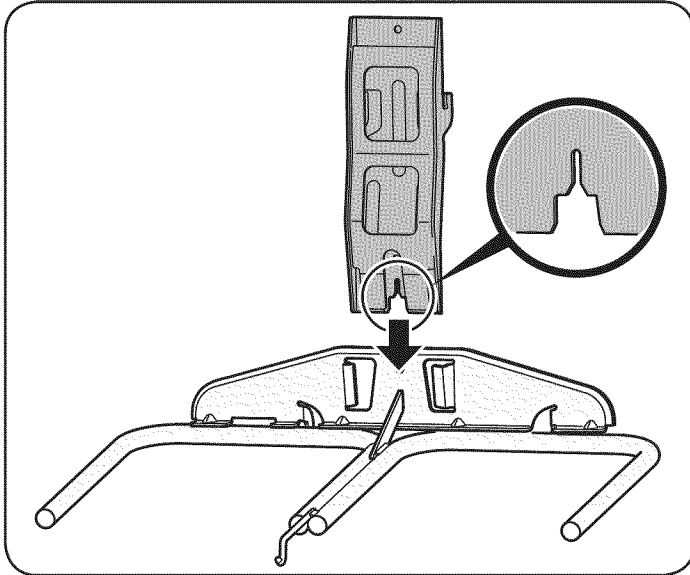
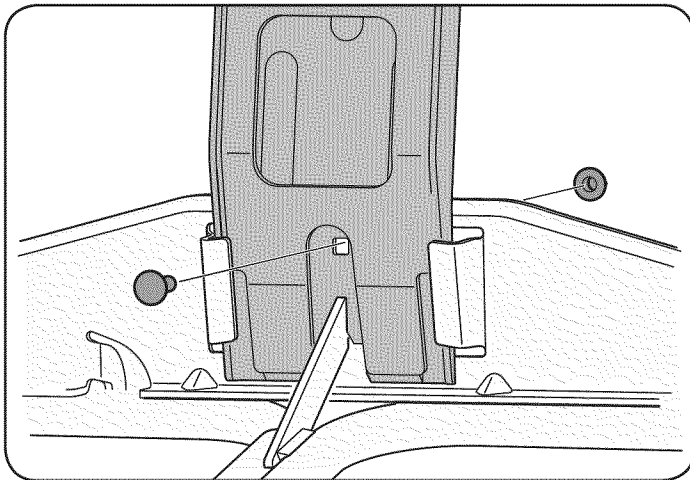

Figure 4
Figure 5
2. Insert the notched end of the vertical support bracket into the bin support assembly, as in Fig. 4, and secure with a carriage bolt (710-0276) and flange lock nut (712-04063) packed in with the upright support bracket. See Fig. 5.